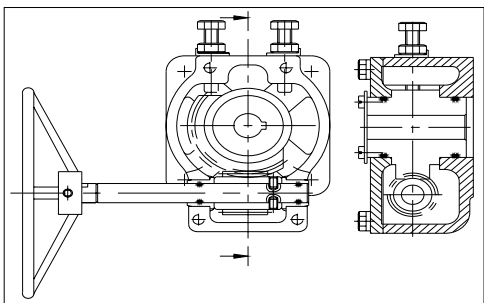

Fig 4.1 : Details of gear operator.
- 6.2 For gear operated valves, **THE GEAR OPERATOR OPEN / CLOSE ADJUSTMENT HAS BEEN DONE PRIOR TO SHIPMENT AND MUST NOT BE CHANGED.** Rotation of hand wheel in the clockwise direction closes the valve and counter clockwise rotation opens it. (Looking from hand wheel end) The details of gear operator are shown in the fig. 4.1. The internal details/construction of gear operator may vary as per manufacturers standard.